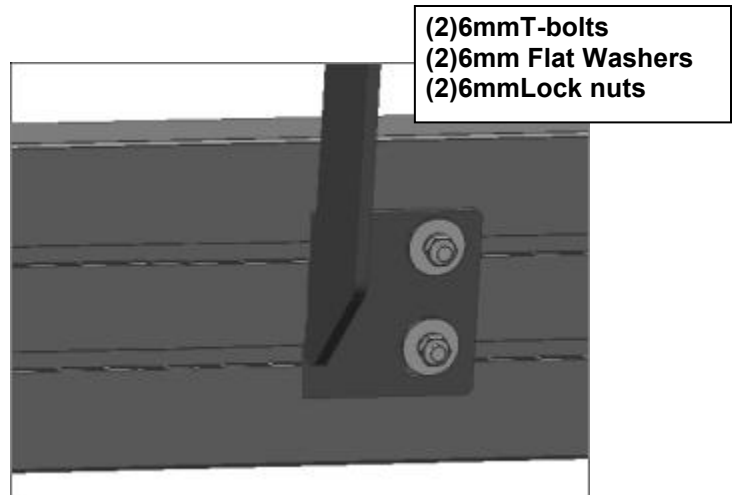

Fig 18 Bracket Installation
7. Once all (3) Brackets have been installed, Select a Running Board. Slip (12) 6mm T-Bolts into each bottom channel (**Figure 17**). Carefully position the Running Board onto the Mounting Brackets. Attach the Running Board to the Mounting Brackets with (2) 6mm T-bolts,(2)6mm flat washers and (2)6mm lock nuts, (**Figure 18**). Do not tighten hardware at this time
- c. Drill (2) 1/4" holes through the pinch weld for each Support Bracket. **IMPORTANT:** Do not drill too close to the bottom edge of the pinch weld. Adjust the Brackets as necessary to move the slots up the body panel away from the edge. Drill the holes toward the outside of the marked slots.